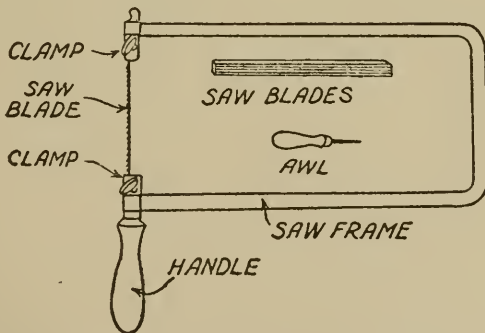

FIG. 8. A SIMPLE AND CHEAP SCROLL SAWING OUTFIT
**A Cheap Scroll Sawing Outfit.**— The simplest and cheapest scroll sawing outfit consists of (a) a scroll saw frame; (b) a dozen saw blades, and (c) an awl, all of which are shown in Fig. 8. If it is your